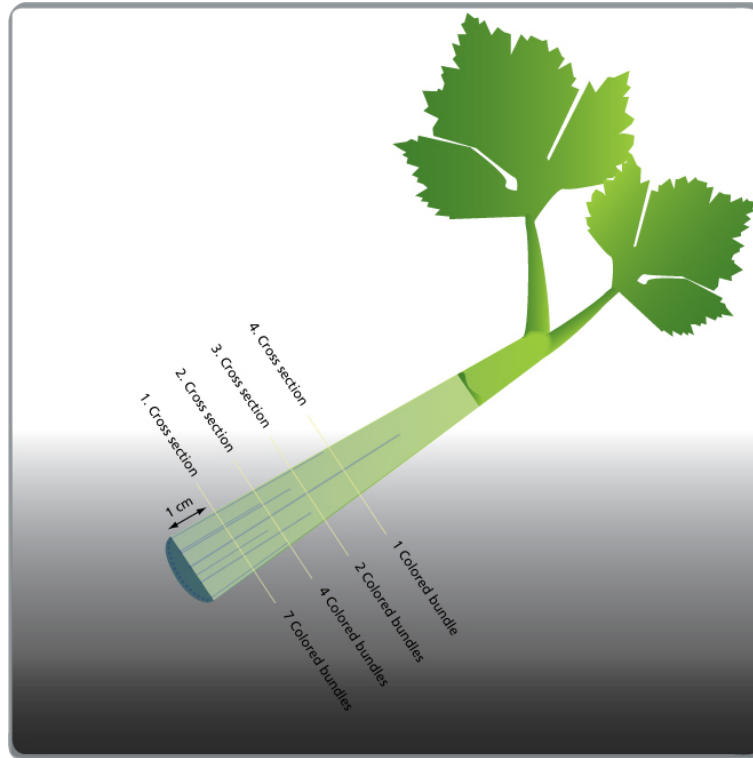

Figure 2
7. Repeat the procedure till you reach a section without colored bundles (see figure 2)